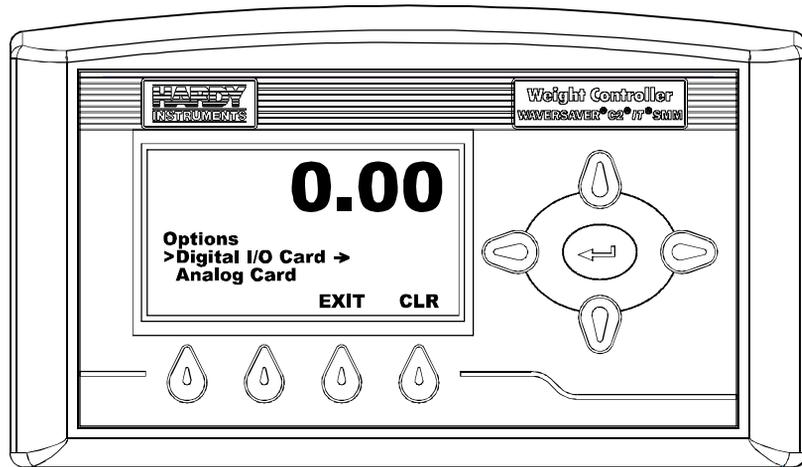

FIG. 159 OPTIONS MENU/SELECTING DIGITAL I/O CARD
Step 1. From the Options Menu, press the down arrow button until the cursor is in front of “Digital I/O Card”. (See Fig. 159)